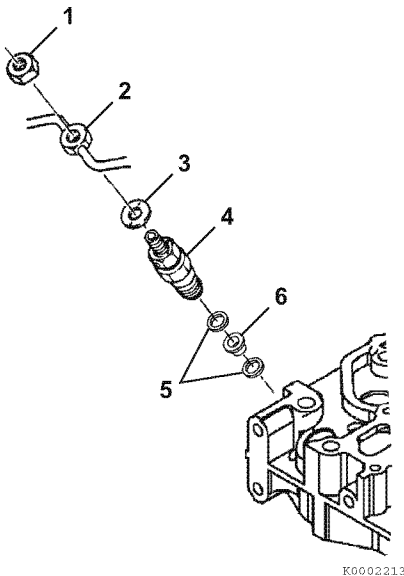

Figure 7-44
1. Insert the nozzle gaskets (**Figure 7-44, (5)**) and nozzle protector (**Figure 7-44, (6)**) in the cylinder head.
2. Reinstall the fuel injector (**Figure 7-44, (4)**) in the cylinder head and tighten to specification.
3. Reinstall new copper washers (**Figure 7-44, (3)**), high-pressure and return fuel lines (**Figure 7-44, (2)**). See *Installation of High-Pressure Fuel Injection Lines* on page 7-12 and *Installation of Fuel Return Line* on page 7-13. Tighten fuel line nuts (**Figure 7-44, (1)**) to specifications.